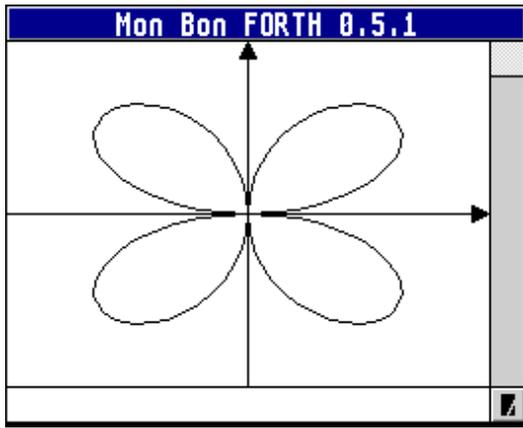

Abbildung 2: Polar curve $r(t)$
- `gr_y(t)`, `gr_xy(t)`, `gr_r(t)` — for the different types of curves (Abb. 2)